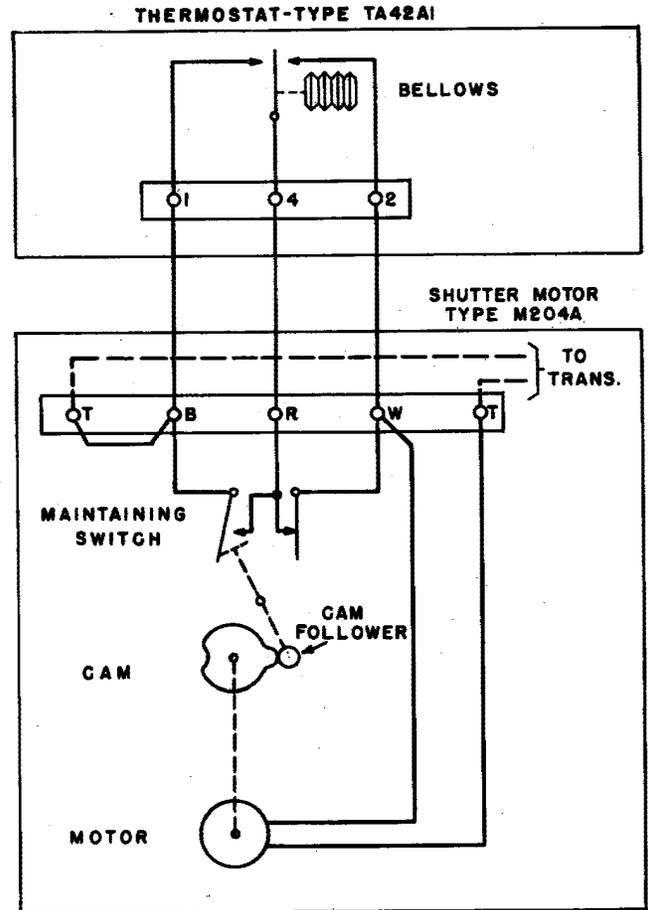

Fig. 2 - Schematic - M204A-type Shutter Motor
1.11 Schematic circuits applying to the M204A-type shutter motor, Fig. 2, and jointly to the T915C-type controller and the M904E-type shutter motor, Fig. 7, are included in this section for general information.